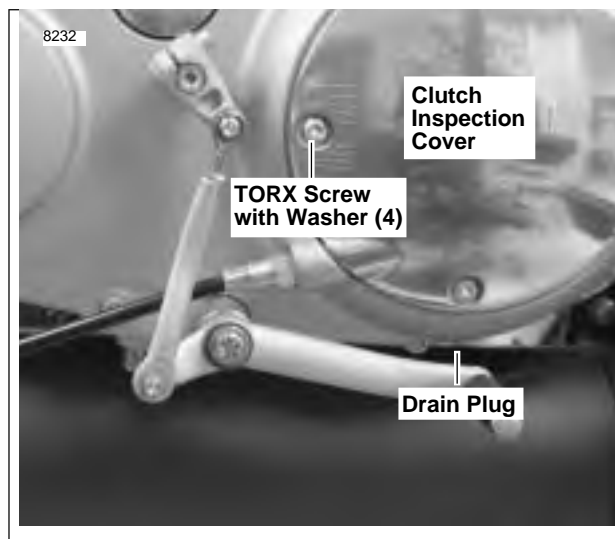

Figure 1-18. Primary Cover
3. See Figure 1-18. Position a suitable container under drain plug (3). Remove plug and drain fluid.
5. Remove four TORX screws with washers (1) from clutch inspection cover (2). Remove clutch inspection cover from primary cover. Do not damage or dislodge Quad ring from primary cover.
7. See Figure 1-18. Install clutch inspection cover (2) using four TORX screws with washers (1). Tighten in a cross-wise pattern to 7-9 ft-lbs (10-12 Nm).